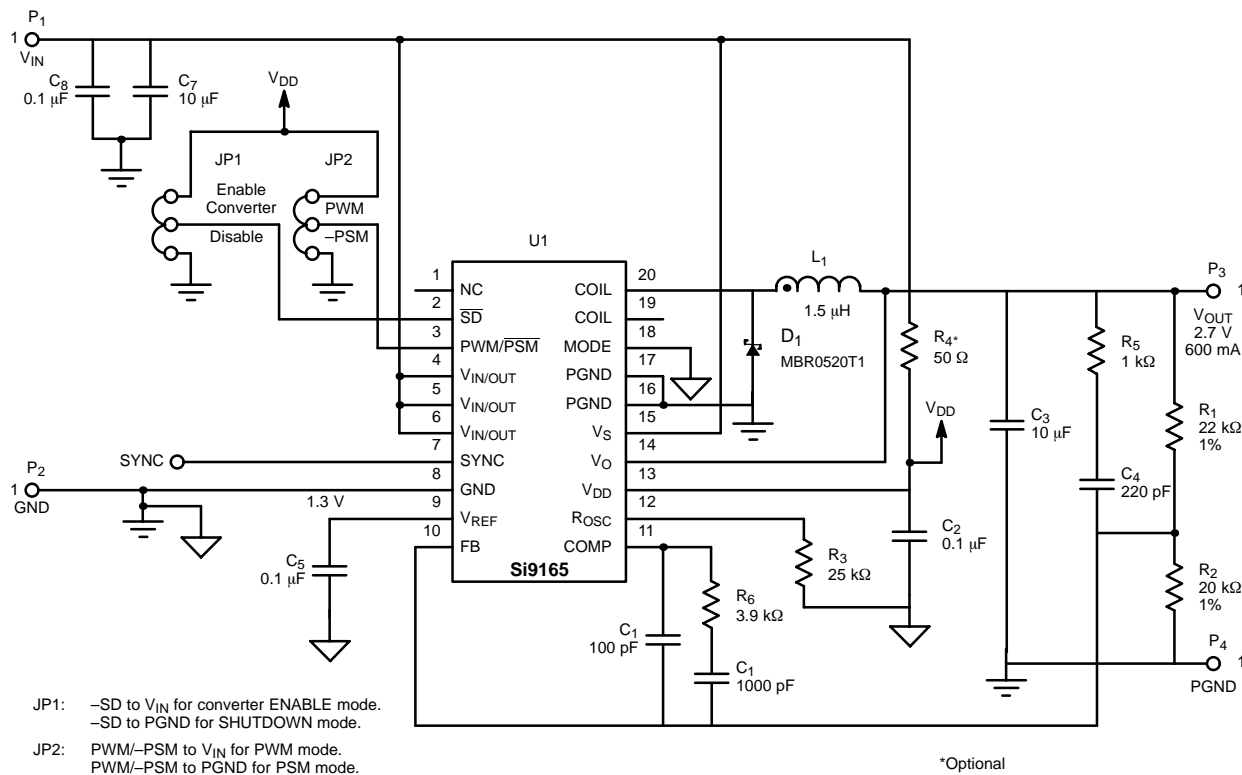

FIGURE 1. Schematics of Si9165 Buck
There are two different version of demo boards (DB), buck and boost converters, because the Si9165 can be easily configured to buck or boost modes. The demo board has been configured to generate 2.7-V regulated output for buck DB while for boost DB is 3.6 V. The output voltage set point can be easily adjusted by changing the value of  $R_2$  (See Figure 1) using the formula
Included in this document are schematics (Figure 1 and Figure 2), demo board sample waveform (Figure 3 through 6), PCB layout (Figure 7 through 12), and Bill Of Material (Table 1 and 2).